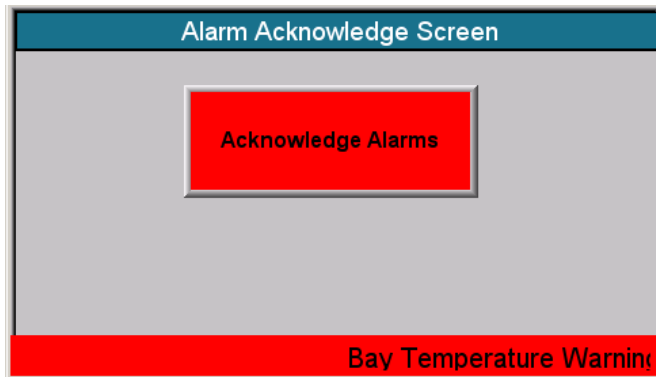

Fig. 6C
- When an alarm occurs, the main screen will change to a red square notification and a continuous, audible beeping will begin (Fig. 6C)